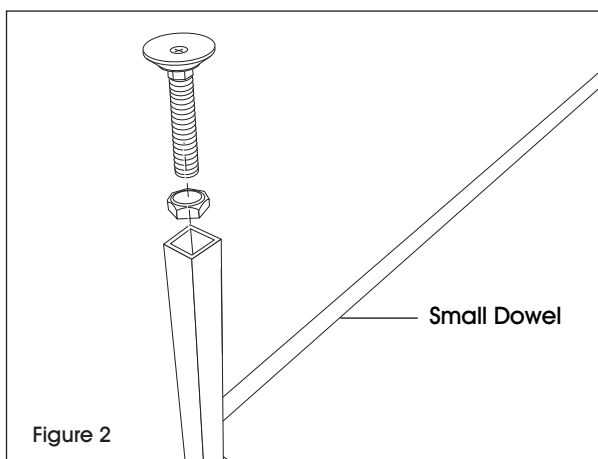

Figure 2
2. Insert leveling bolts and nuts into legs. (See Figure 2)